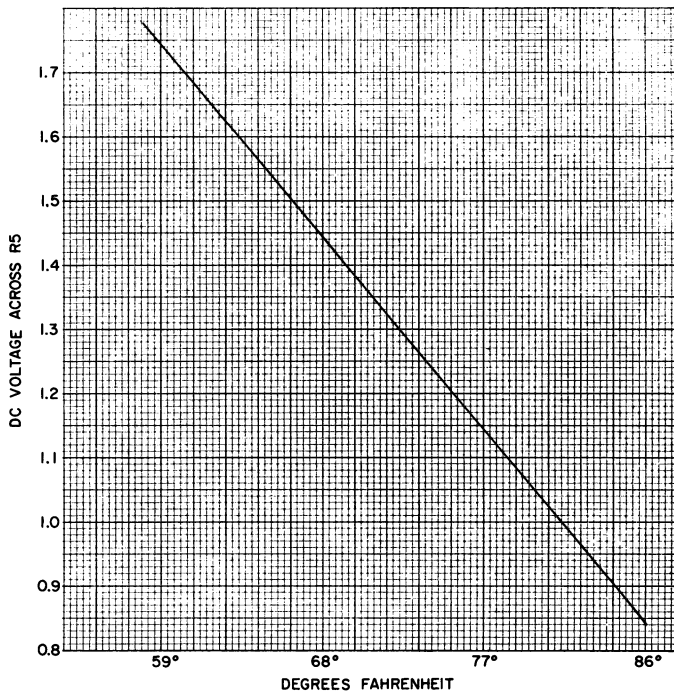

Figure 2 - Voltage versus Temperature Chart
5. Adjust R10 for the correct voltage across R5 (± 0.15 -volt) according to the room temperature as shown in Figure 2.